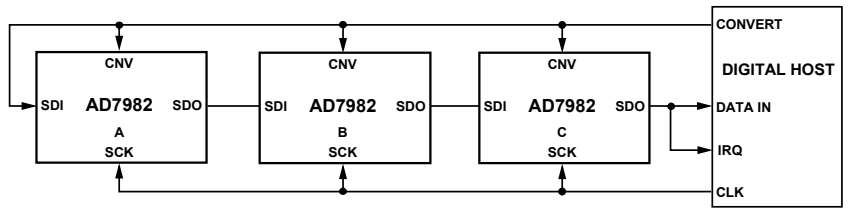
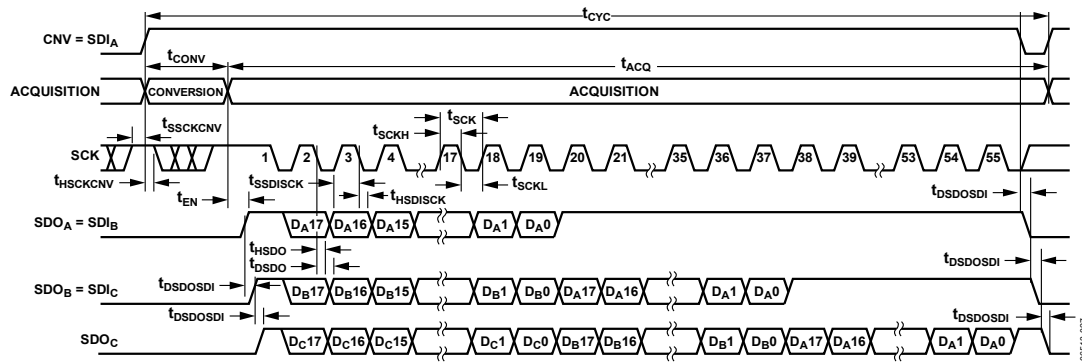

Figure 38. Chain Mode with Busy Indicator Connection Diagram
Figure 39. Chain Mode with Busy Indicator Serial Interface Timing
- In the chain mode if SCK is high during the CNV rising edge (see Figure 39).
Figure 38 shows a connection diagram example using three AD7982 devices, and Figure 39 shows the corresponding timing.
In this mode, CNV is held high during the conversion phase and the subsequent data readback. When all ADCs in the chain have completed their conversions, the SDO pin of the ADC closest to the digital host (see the AD7982 ADC labeled C in Figure 38) is driven high. The transition of driving the SDO pin of the ADC to high can be used as a busy indicator to trigger the data readback controlled by the digital host. The AD7982 then enters the acquisition phase and powers down. The data bits stored in the internal shift register are clocked out, MSB first, by subsequent SCK falling edges. For each ADC, SDI feeds the input of the internal shift register and is clocked by the SCK falling edge. Each ADC in the chain outputs its data MSB first, and  $18 \times N + 1$  clocks are required to read back the N ADCs. Although the rising edge can capture the data, a digital host using the SCK falling edge allows a faster reading rate and consequently more AD7982 devices in the chain, provided the digital host has an acceptable hold time.